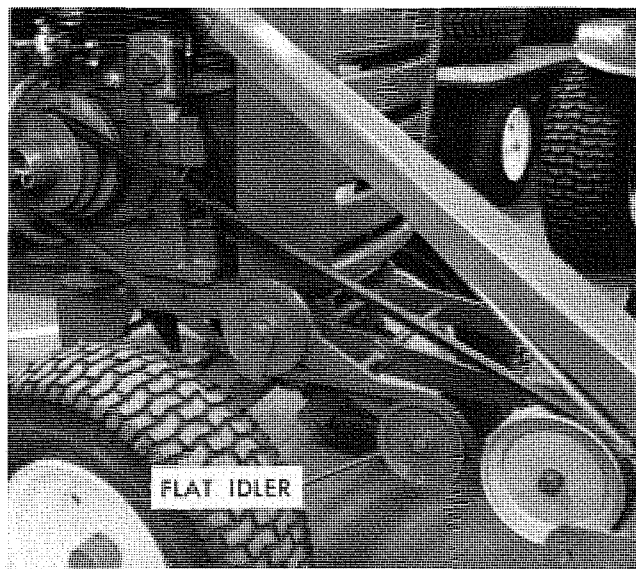

Figure 2
6. Raise the snow thrower to transport position. Fit the drive belt in the outer groove of the PTO clutch. Slip the lower strand of the belt between the belt guide bracket (11) and idler pulley (10) and attach the pulley to the idler arm (6) with the pre-assembled bolt and nut. Position the belt guide bracket perpendicular to the idler arm and tighten the nut securely.
7. Wrap the V-belt (29) around the drive pulley (16) and slide it hub-first on the drive shaft. Do not tighten the set screws at this time.
8. Hook spring (9) between the idler arm and the hole provided below the drive shaft in the frame. Rotate the idler arm assembly against spring tension and bring the lower belt strand over the flat idler as shown in figure 2. Align the drive pulley with the idler pulley and tighten both set screws.